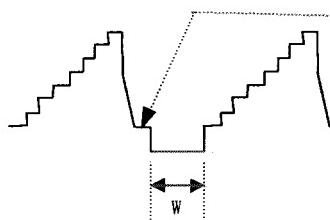

Fig. 1
- (1) Apply an NTSC YC separate greyscale signal to the Y/C input terminal.
- (2) Open main menu **Set Up**, select Y/C of **LINE**.
- (3) Connect the oscilloscope to ANALOG PWB ASS'Y TP-102 (ground at TP-1E).
- (4) Display Service Menu **EVR** **DECOD**, click **Pedestal level**, **HPOS Timing T** and **HPOS Timing W**, then set to 255.
- (5) Observe the waveform with the oscilloscope and adjust **HPOS Timing W** to set the blanking W (Fig. 1) to  $11 \mu\text{s}$ .